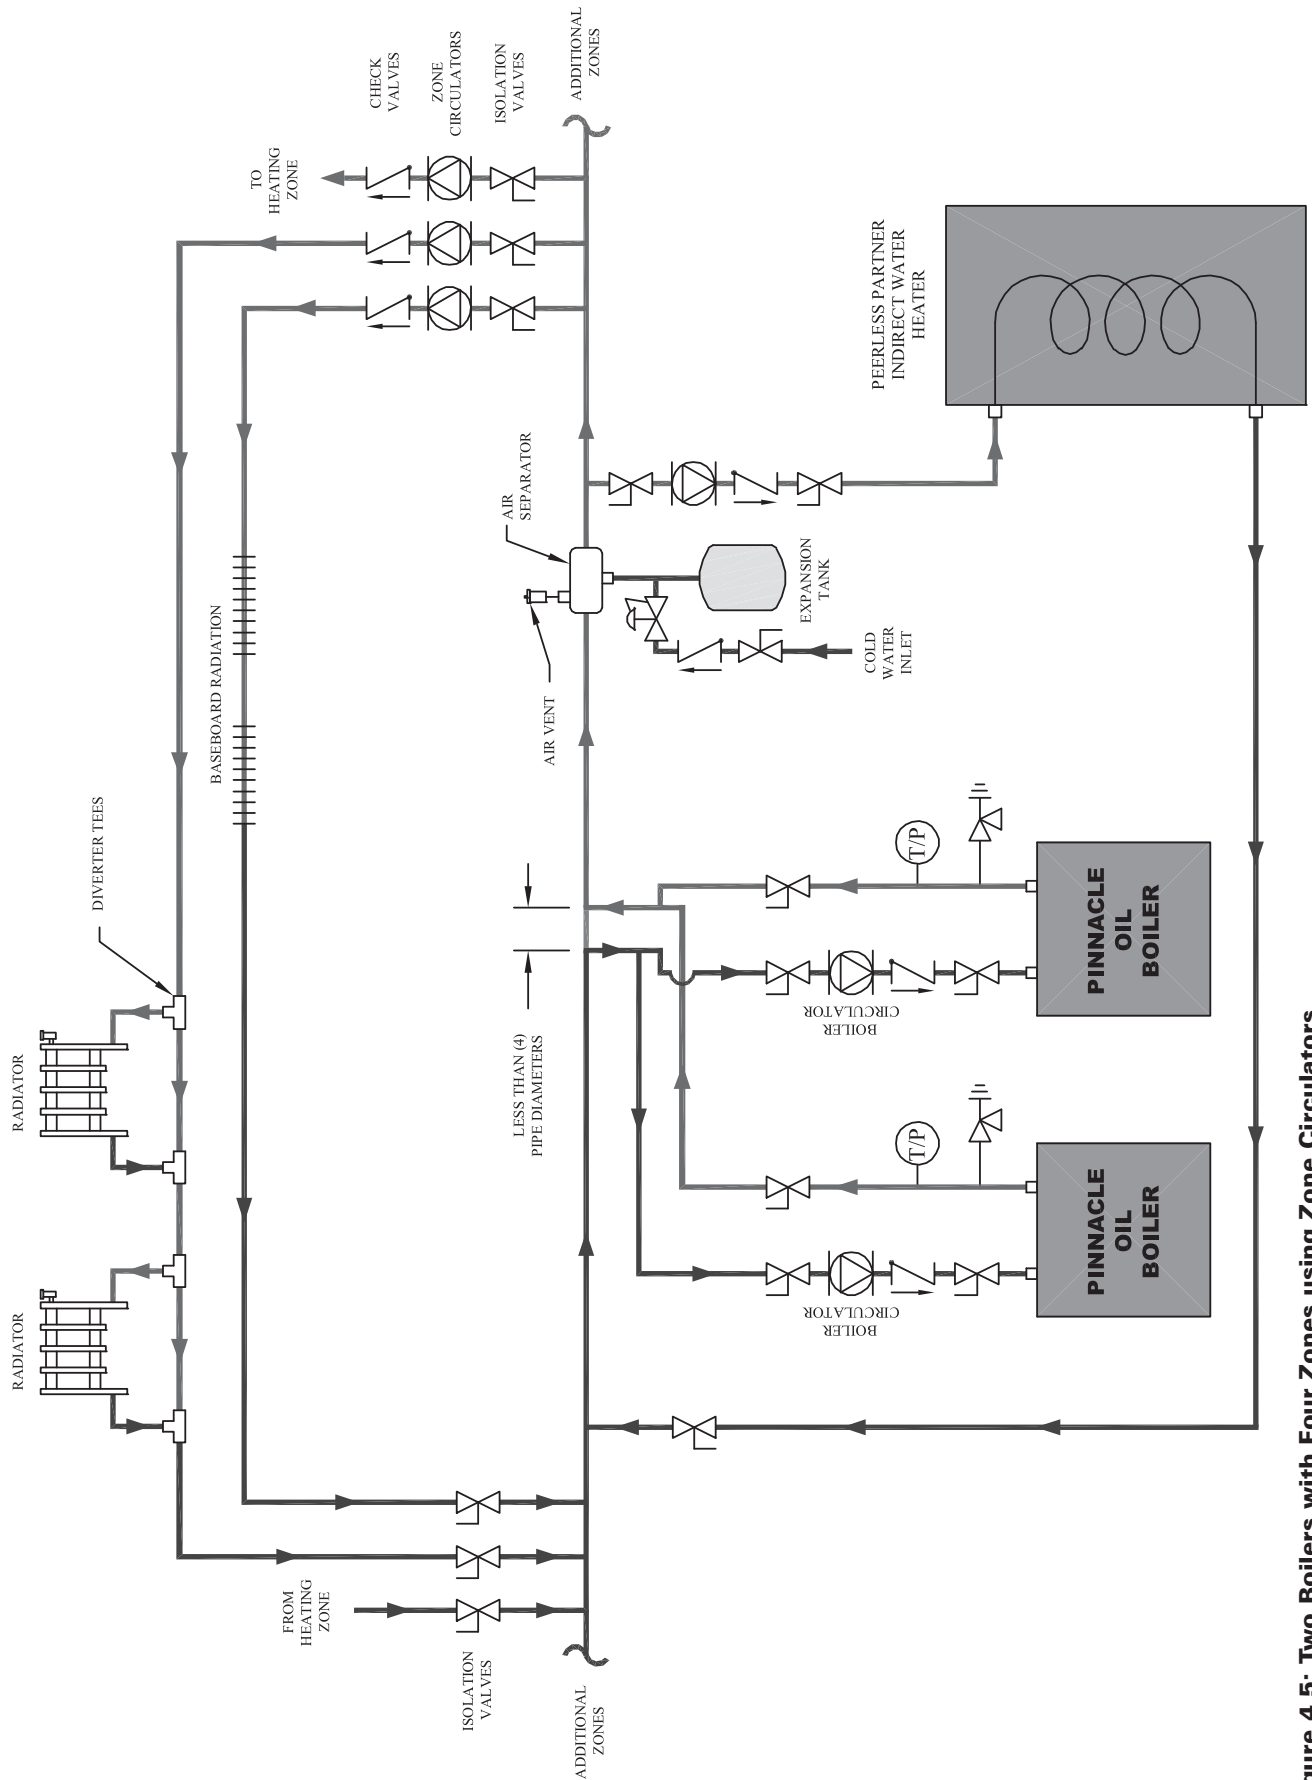

Figure 4.5: Two Boilers with Four Zones using Zone Circulators
3. *Figure 4.5:* This figure shows diverter tees used in combination with conventional hydronic radiators on an additional zone.